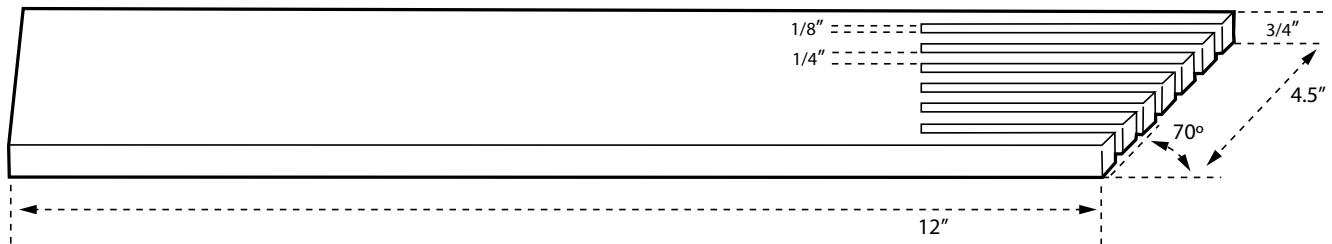

FIGURE 35
Featherboards are used to keep the work in contact with the fence and table (Figure 35), and help prevent kickback. Featherboards are especially useful when ripping small workpieces and for completing non-through cuts. The end is angled with a series of narrow slots to give a friction hold on the workpiece. It is locked in place on the table or fence with a c-clamp.
Dimensions for making a typical featherboard are shown in Figure 35. Make your featherboard from a straight piece of wood that is free of knots and cracks. Clamp featherboards to the fence and/or table so that the featherboard will hold the workpiece against the fence or table.
2. Loosen the 2 screws for the miter stop segment for the desired new angle. (A) is shown in Figure 35.